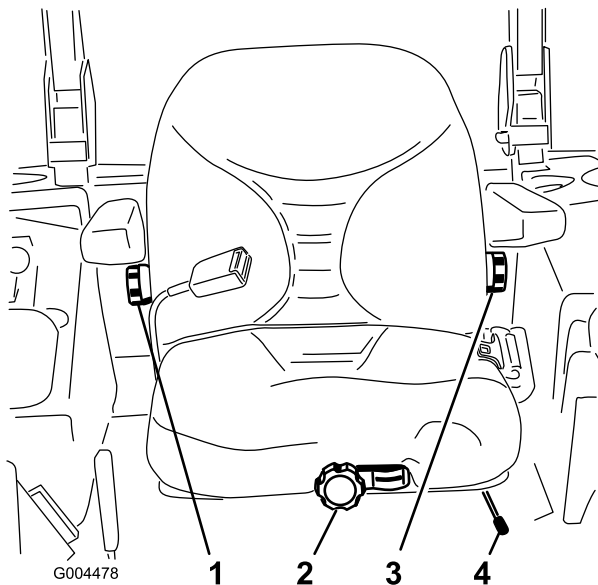

Figure 20
1. To adjust, move the lever sideways to unlock the seat (Figure 20).
Without sitting on the seat, turn the knob in front either direction to provide the best comfort (Figure 20).
To adjust it, turn the knob, under the right-side arm rest, in either direction to provide the best comfort (Figure 20).
To adjust it, turn the knob, under the left-side arm rest, in either direction to provide the best comfort (Figure 20).